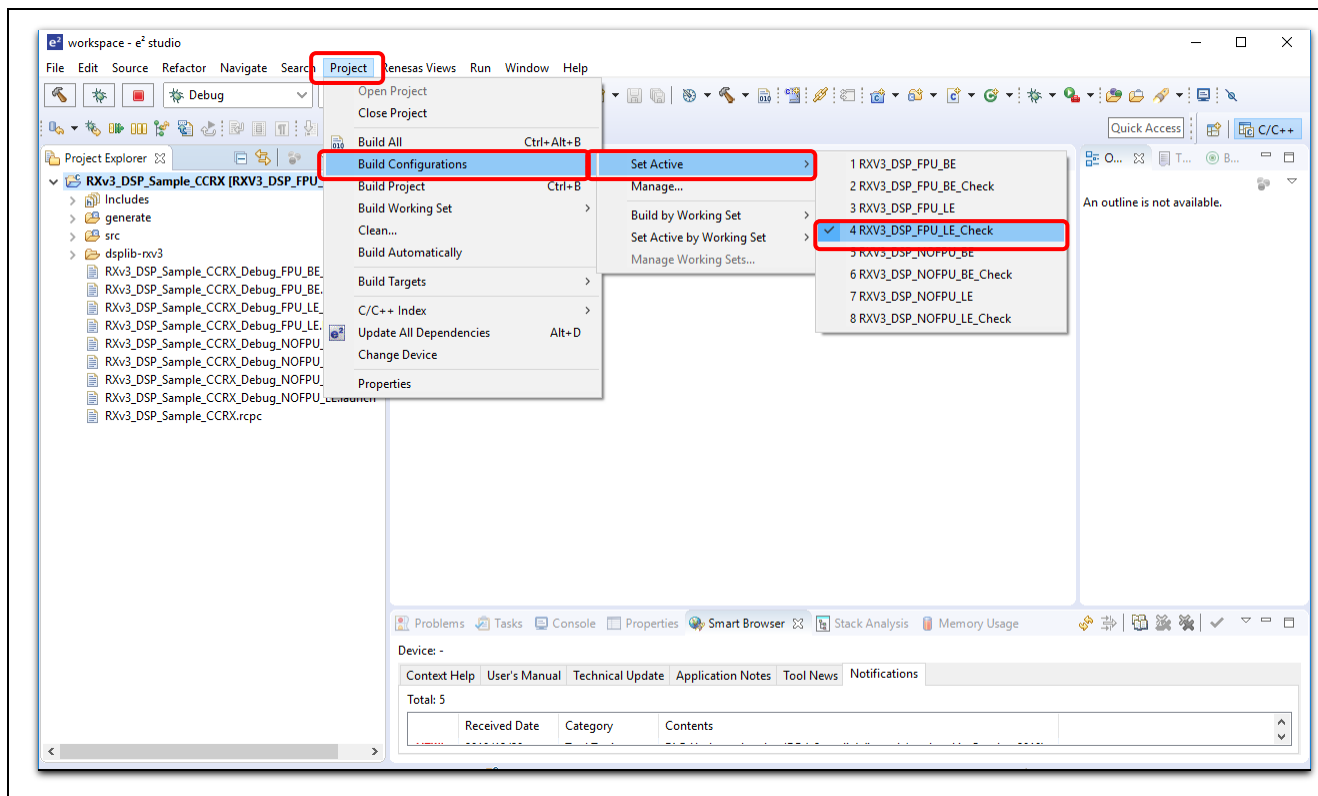

Figure 3-2 Selecting the build configuration in e² studio
- As shown in Figure 3-2, click the “RXv3_DSP_Sample_CCRX” project in Project Explorer, then from the menu select “Project” > “Build Configuration” > “Set Active” to select the desired build configuration.